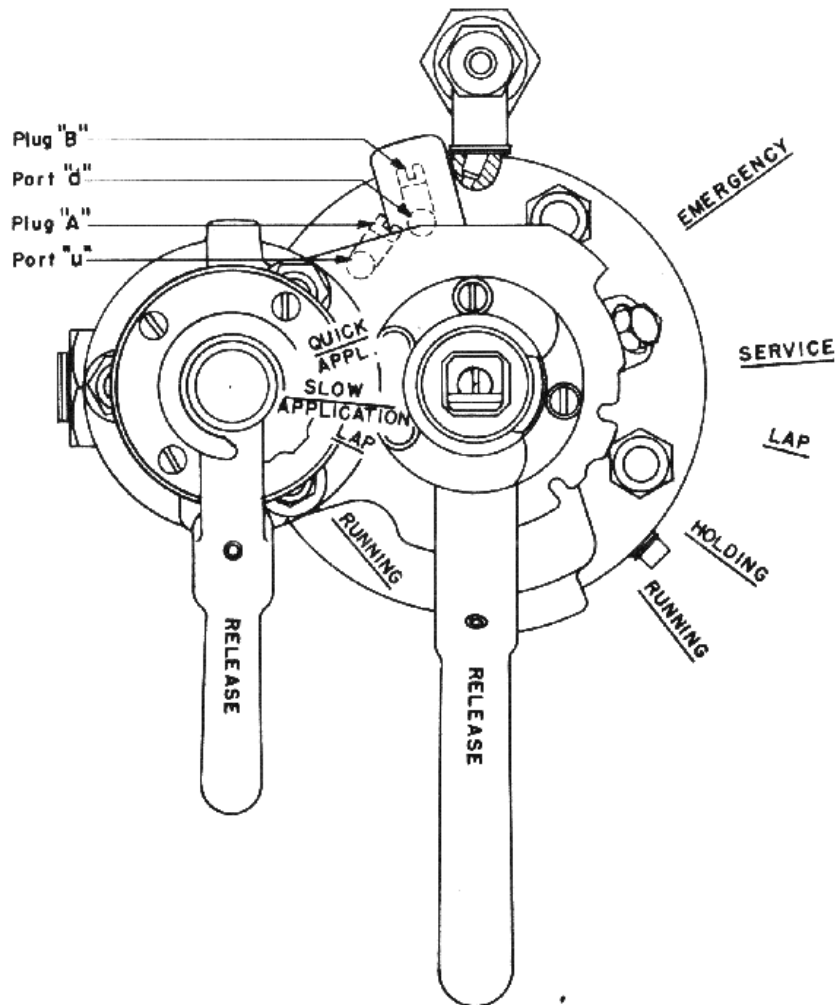

Fig. 33. Engineman's brake valve
(Refer to Fig. 33) (Lower Handle)
4. *Lap Position.* This position is used while holding the brakes applied after a service application, until it is desired either to make a further brake-pipe reduction or to release them. All ports are closed. The removal of a plug in the rotary-valve seat permits release of the locomotive brakes, in case_ it is desired to hold train brakes only in this position. This plug is designated as Plug'B, Fig. 33, in port d which connects the distributing-valve release pipe to atmosphere. With the equalizing slide valve of the distributing valve in Lap, the brake on the locomotive is held applied with the train. When the brake-valve handle is moved to Release or Running and returned to Lap with graduated-release equipment, the train brakes remain applied, but the
6. *Holding Position.* This position is so named because the locomotive brakes are held applied while the train brakes are being released and their auxiliary reservoirs recharged to feedvalve pressure. In case the use of this position is not desired, the removal of a plug in the rotary-valve seat causes the brake valve to function the same in Holding as in Running position. This plug is designated as Plug A, and is located in the passage between port u and distributing-valve release pipe; see Fig. 33.
(Refer to Fig. 33) (Upper Handle)